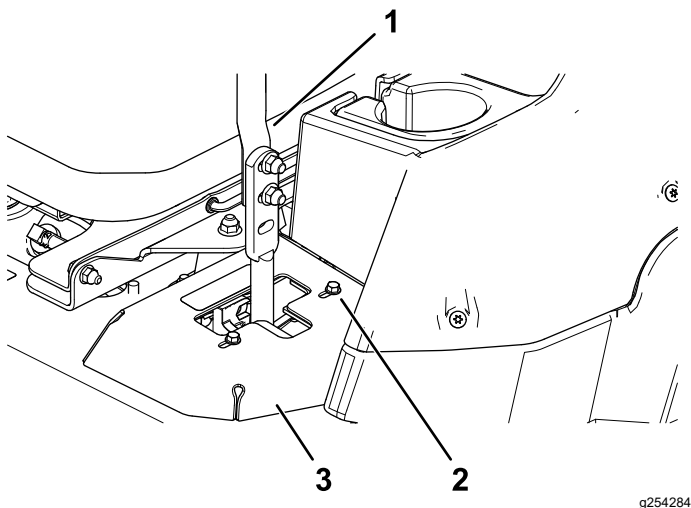

Figure 46
- If the machine tracks to the right, loosen the bolts and adjust the left stop plate rearward on the left T-slot until the machine tracks straight (Figure 46).
- If the machine tracks to the left, loosen the bolts and adjust the right stop plate rearward on the right T-slot until the machine tracks straight (Figure 46).
8. Tighten the stop plate (Figure 46).